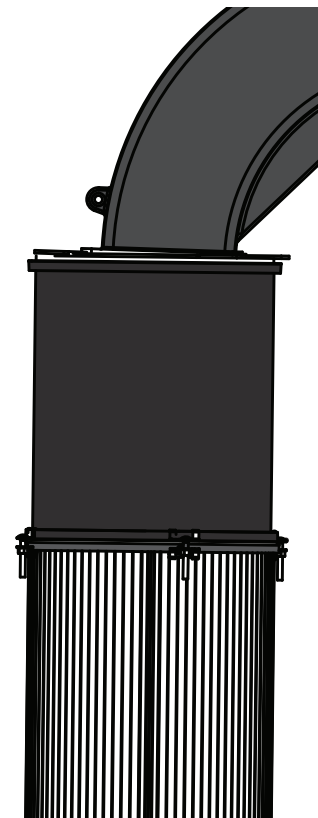

FIG. 12
Install the Stacking Sound Filter (N) [FIG. 12] by referencing the included instruction sheet: